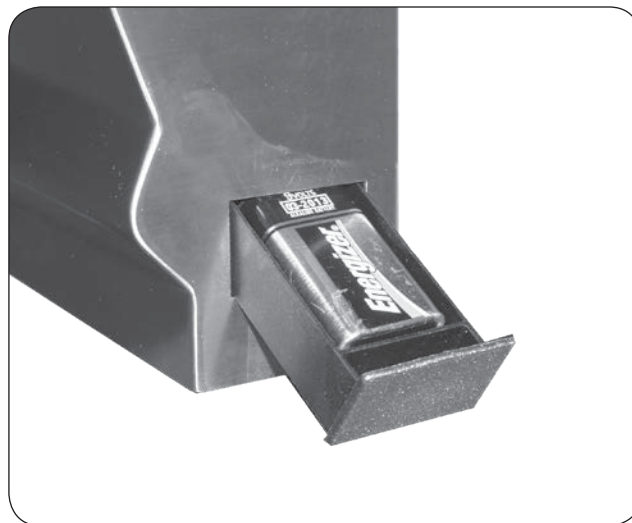

Fig. 29-1 Replace igniter battery
2. Disconnect the battery from the connector and replace it connecting the new battery and close the drawer (see Fig. 29-1).